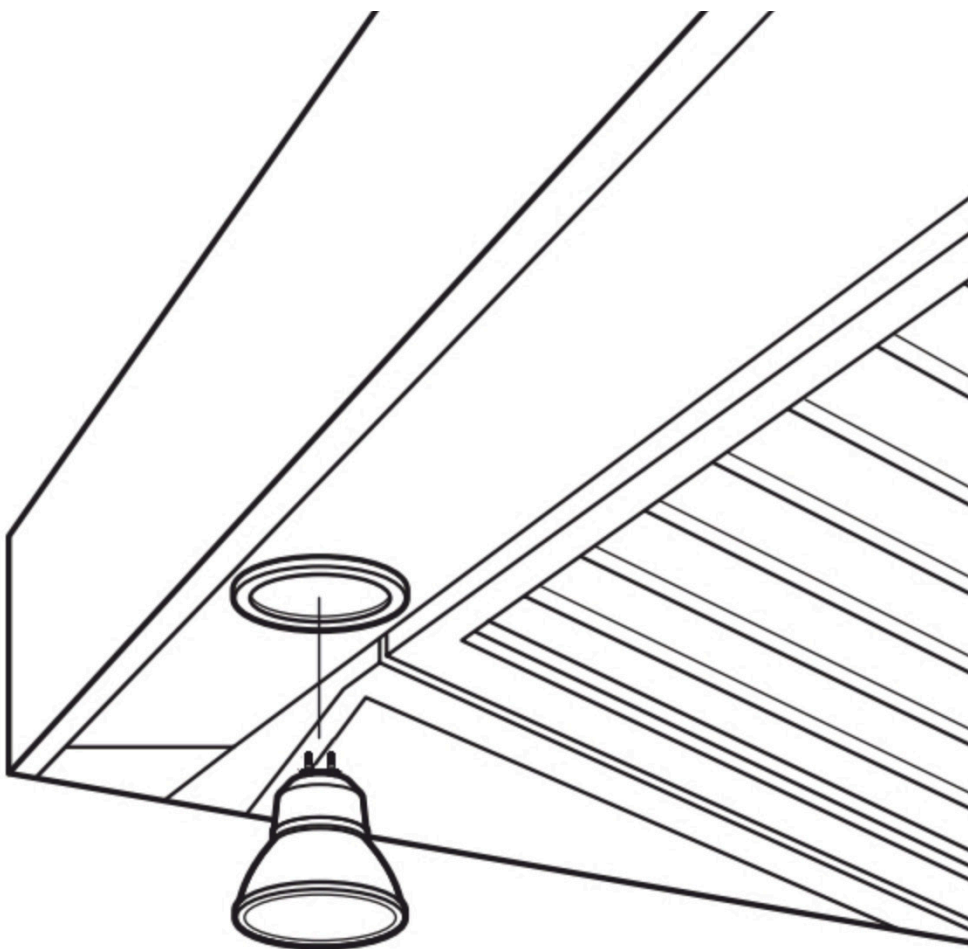

FIGURE 19: LIGHT BULB REPLACEMENT
1. Using the tips of your fingers or fingernails, gently pull the bulb downwards (FIGURE 19).